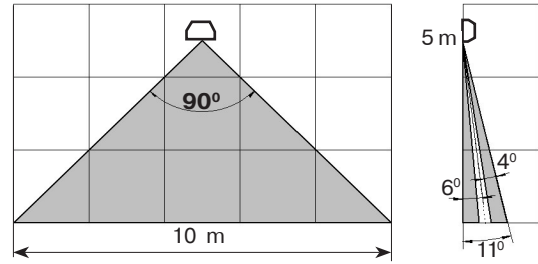

Figure 1
1.3 The Detector provides vertical curtain detection zone (see Figure 1).